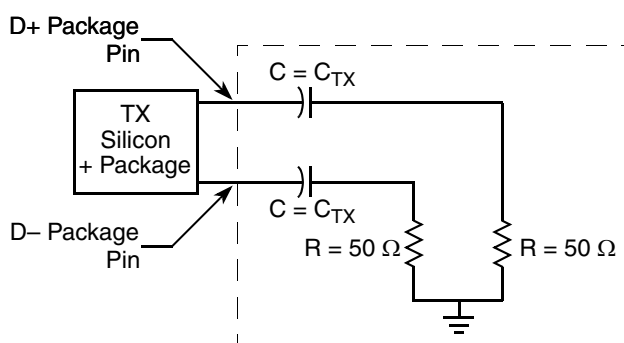

Figure 44. Compliance Test/Measurement Load
1. Specified at the measurement point into a timing and voltage compliance test load as shown in Figure 44 and measured over any 250 consecutive TX UIs.
- Specified at the measurement point and measured over any 250 consecutive UIs. The test load in Figure 44 should be used as the RX device when taking measurements. If the clocks to the RX and TX are not derived from the same reference clock, the TX UI recovered from 3500 consecutive UI must be used as a reference for the eye diagram.
2. Specified at the measurement point into a timing and voltage compliance test load as shown in Figure 44 and measured over any 250 consecutive TX UIs.
2. Specified at the measurement point and measured over any 250 consecutive UIs. The test load in Figure 44 should be used as the RX device when taking measurements. If the clocks to the RX and TX are not derived from the same reference clock, the TX UI recovered from 3500 consecutive UI must be used as a reference for the eye diagram.
The AC timing and voltage parameters must be verified at the measurement point, as specified within 0.2 inches of the package pins, into a test/measurement load shown in Figure 44.